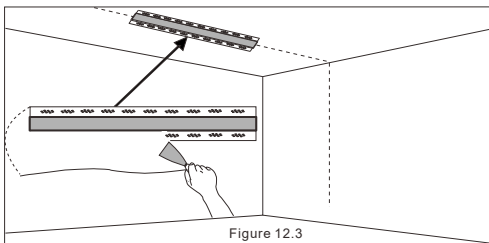

Figure 12.3
4. Perform grey work on the side area of the track belt and the ceiling or wall to cover the edge of the track; (See Figure 12.3)
4. Lift the track, press and hold the ceiling lifting accessories buckle, insert the suspension line into the hoisting accessories buckle, adjust the appropriate height of the suspension line, and check whether the track installation is firm and safe; (See Figure 12.3)